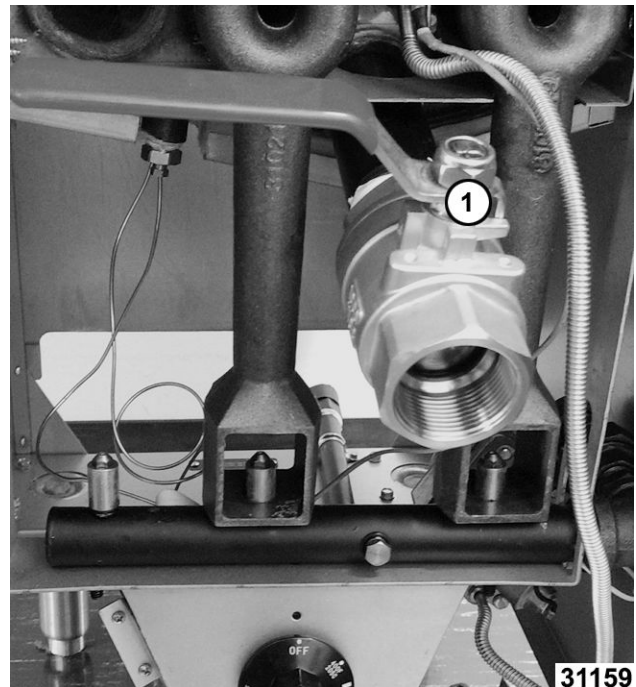

Fig. 34
3. Place container under drain valve (1, Fig. 34) to drain shortening into.